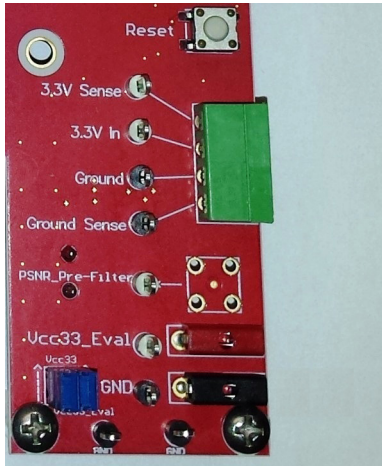

Figure 10. 3.3 V Power Supplies – power cables
4. Power Supply Cables (Figure 10)